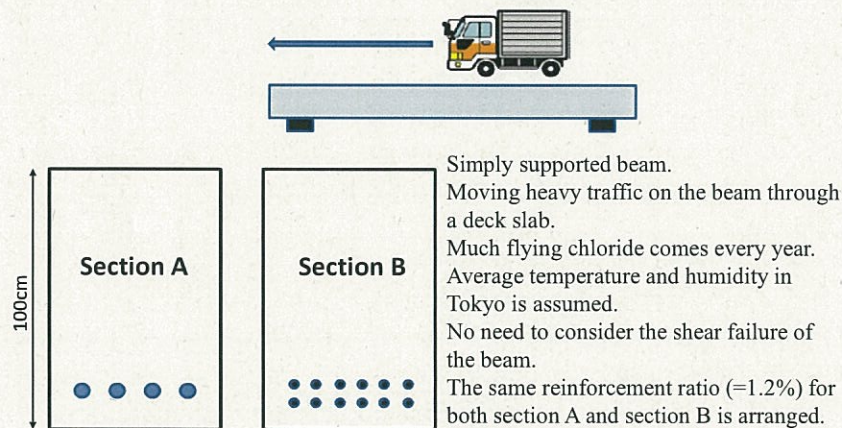

Fig. 3 Reinforced concrete beam subjected to moving traffic loads
- c) Figure 3 shows a simply supported reinforced concrete beam subjected to repeatedly travelling traffic loads on the beam through a deck slab. Explain with about 8 lines which one of the following cross sections A and B (See Fig.3) may bring about longer service life. The concrete used for construction is shown in Table 1. Concrete placing and curing are well done according to standard specifications and codes for practice.